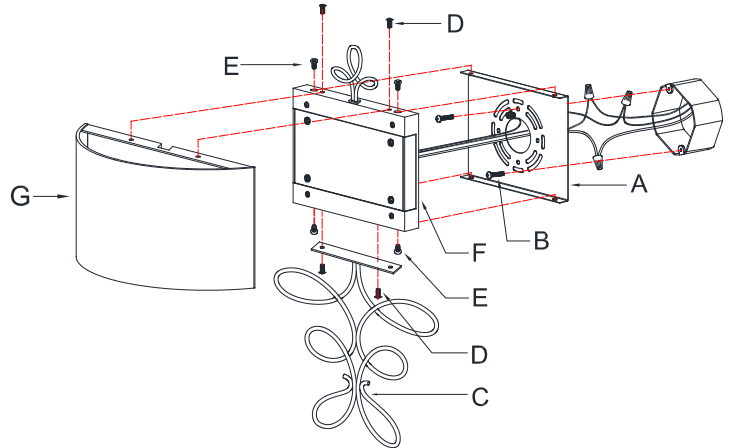

Fig. 2
CONNECTING THE WIRES (FIG. 2)
5. Connect the electrical wires as shown in Fig. 2, making sure that all wire connectors are secured. If your junction box has a ground wire (green or bare copper), connect the fixture's ground wire to it. Otherwise, connect the fixture ground wire directly to the mounting plate (A) using the green screw provided. After wires are connected, tuck them carefully inside the junction box.